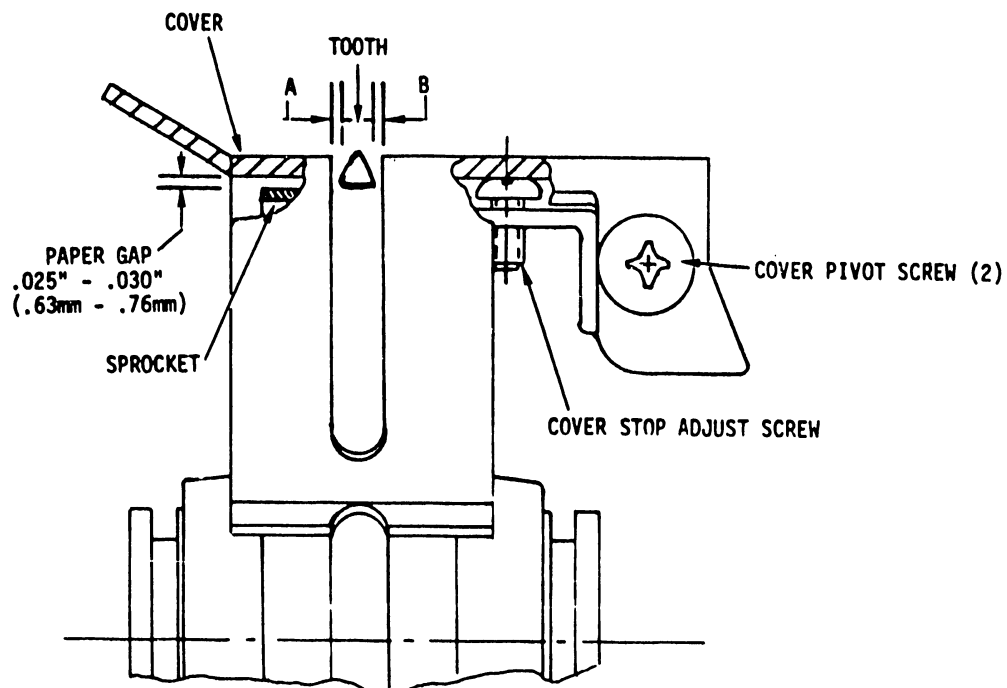

FIGURE 5-17 PAPER FEED SPROCKET ADJUSTMENTS
- 1) With each of the sprocket wheel covers closed, (Figure 5-17), there should be a gap between cover and paper feed sprocket of .025" to .030" (.64 mm to .76 mm).
- 2) The teeth of the sprocket should be centrally located in the cover slot as shown in Figure 5-17.